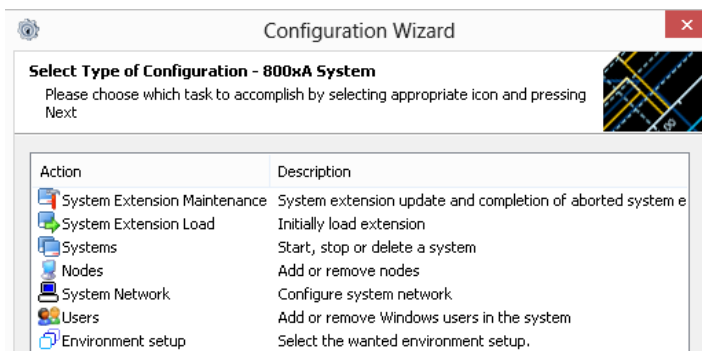

Figure 17. System Administration Dialog Box
- 1. In the System Administration dialog box, see Figure 17, select **Nodes** and click **Next**.
1. In System Administration dialog box, see Figure 17, select **Nodes** and click **Next**.